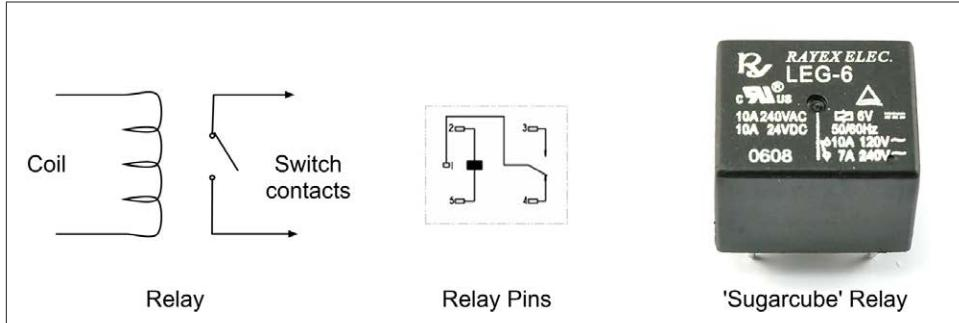

Figure 9-6. The workings of a relay
**Figure 9-6** shows how a relay is constructed.